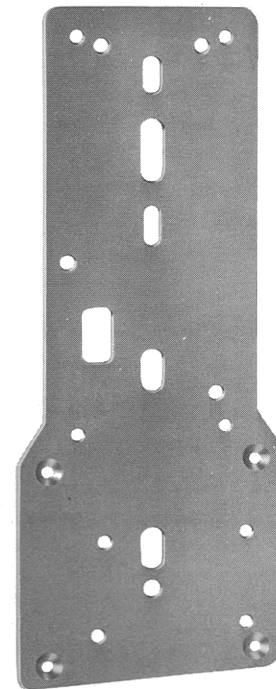

Fig. 25 — 1A Backplate
- (b) The 1A backplate (Fig. 25) is used on coin collectors arranged for security studs, bolt fasteners, and stud fasteners at locations where additional mounting security is needed. The 1A backplate provides clearance holes for security studs and mounting screws. It is fastened on the coin collector backplate by replacing the four lower housing assembly screws with one P-12E799 and three P-13E656 high-strength flathead steel screws. As viewed from the front (Fig. 24) the P-12E799 mounts in the lower right corner. The replacement screws must be ordered separately. Coin collectors equipped with the 1A backplate can not be used on 139A backboards and 19-type shelves.